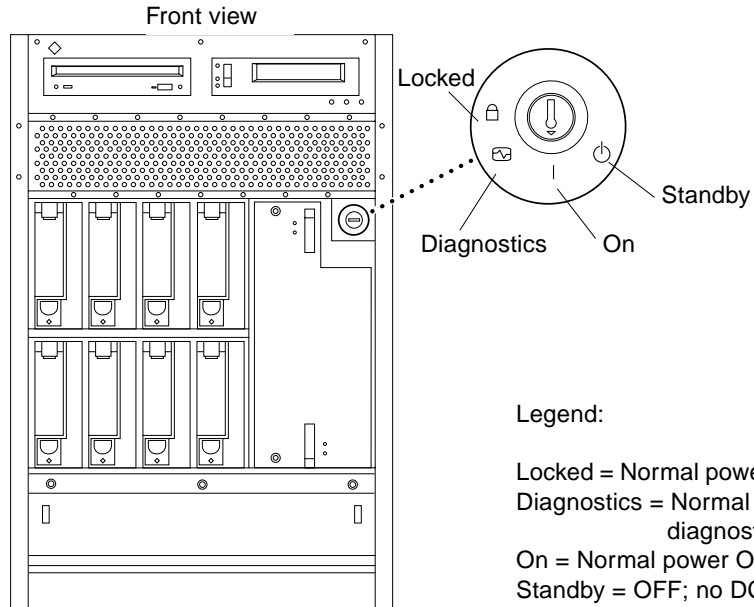

FIGURE 3-1 Key Switch Positions
5. **Turn the key switch to the On position (FIGURE 3-1).**
- 6. Locate the system key switch in the upper right corner, and turn the key switch to the Standby position (fully counterclockwise) (FIGURE 3-1).**